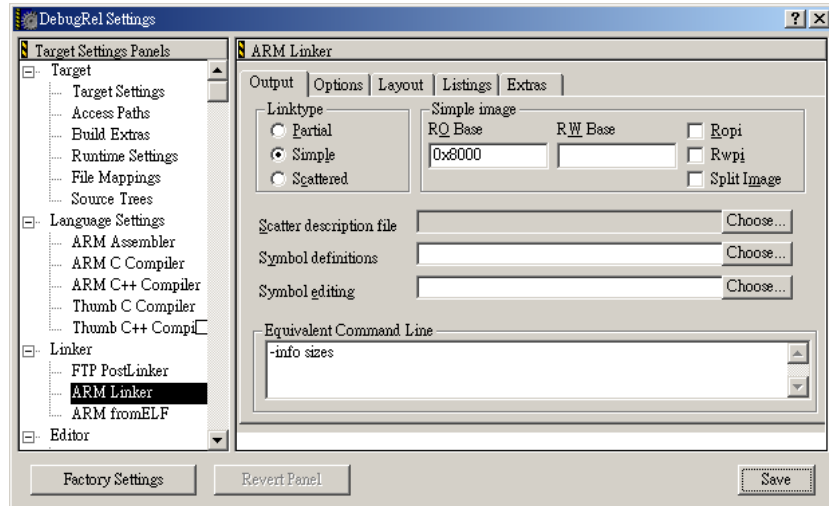

Figure 2. DebugRel Settings for ARM Link output
- 5.1 Change the ARM Linker option from *-info totals* to *-info sizes* in Equivalent Command Line, as shown in Figure 2.